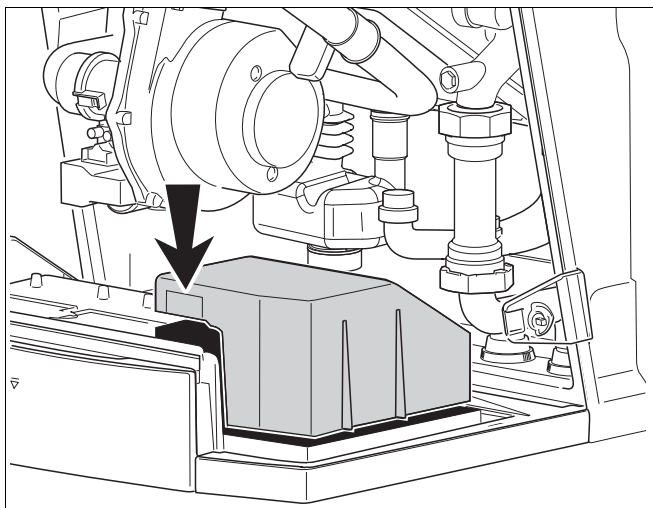

fig. 54 Installing the cover of the connection box
- pos. 2: Outdoor-temperature sensor (connection color blue)
- pos. 3: Potential-free On/Off thermostat (connection color green)
- pos. 4: DHW temperature sensor (connection color grey)
- pos. 5: External switching contact, potential-free for floor heating safety etc. (connection color red)
- pos. 6: DO NOT USE
- pos. 7: Primary loop pump 120V 60Hz (connection color green)
- pos. 8: DHW tank pump 120V 60Hz (connection color grey)
- pos. 9: DHW recirculating pump 120V 60Hz (connection color lilac)
- pos. 10: Main connection 120V 60Hz (connection color white)
- pos. 11: Fuse holder
- Fit the cover on the external connection box (see fig. 54).